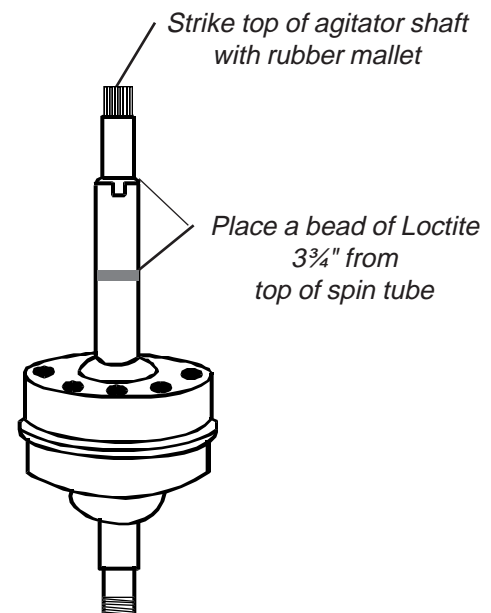

Fig. 29
Refer to Figure 29 for these procedures.
4. When replacing the gearcase a small bead of Loctite should be applied approximately $3\frac{3}{4}$ " from the top of the spin tube. (Fig. 29)